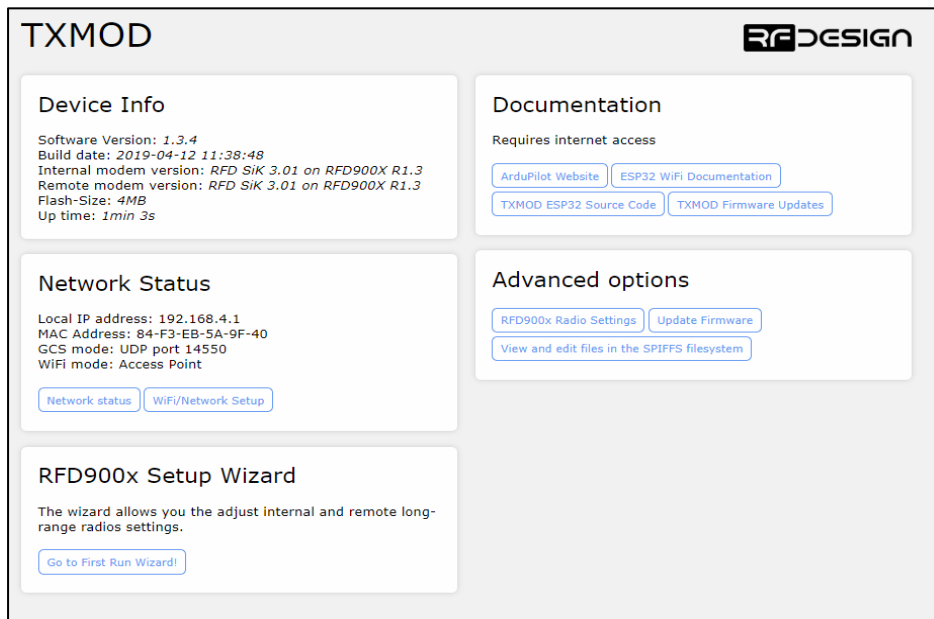
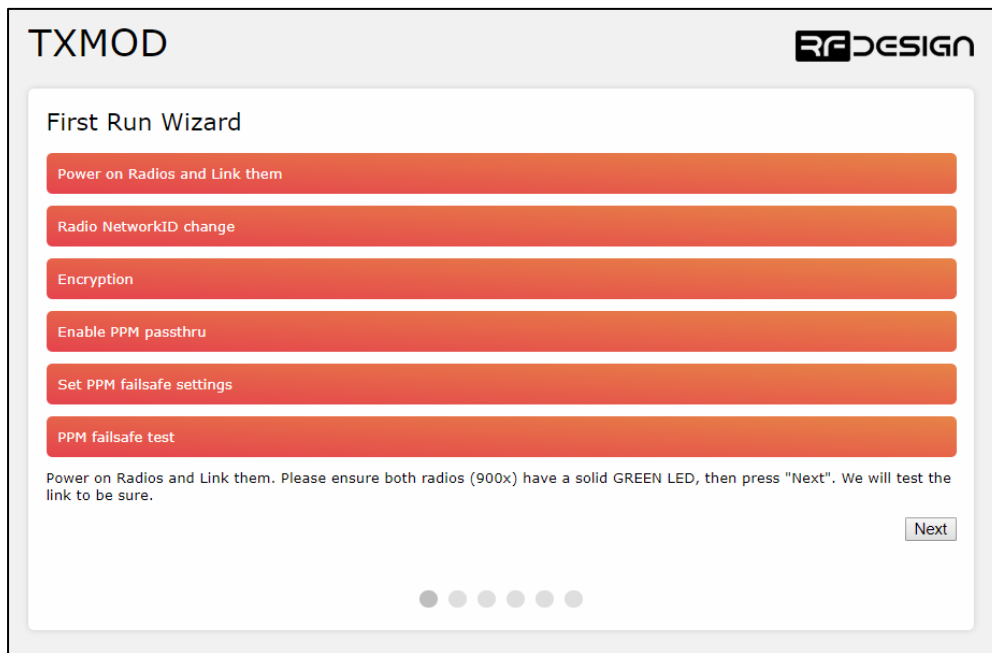

Figure 6 - Configuration home page
Figure 8 - First run wizard
- Point your preferred browser to the TXMOD IP address (by default <http://192.168.4.1/>) to access the configuration homepage of figure 6. Alternatively, it can be accessed by the URL <http://TXMOD-XX-XX-XX.local> where the X's are the same as the X's in the access point network name. Note: This second option will require the installation of some support software for correct operation, for detail please see section 3.2.2 d).
- On the home page, see figure 6, click on 'Go to First Run Wizard!' button to access the wizard shown in figure 8 which will guide you, step by step, to configure your module.
- Power up the remote modem. Note: If the remote RFD900x modem was supplied in kit with the TXMOD both modems should already have the correct firmware. If not or if TXMOD firmware has changed due to an update, refer to section 3.3 for a guide on how to update the remote modem firmware version. The version is displayed on the 'Device Info' section of the homepage interface of figure 6 under 'Internal modem version:'.
- On the browser configuration landing page shown in figure 6, select 'Update Firmware' and follow the on-screen commands to flash them onto the device.